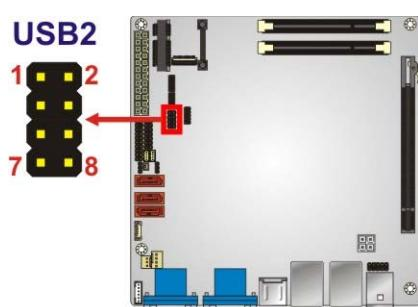

Figure 3-23: USB Connector Locations
**CN Label:** USB2**CN Type:** 8-pin header (2x4)**CN Location:** See Figure 3-23**CN Pinouts:** See Table 3-20